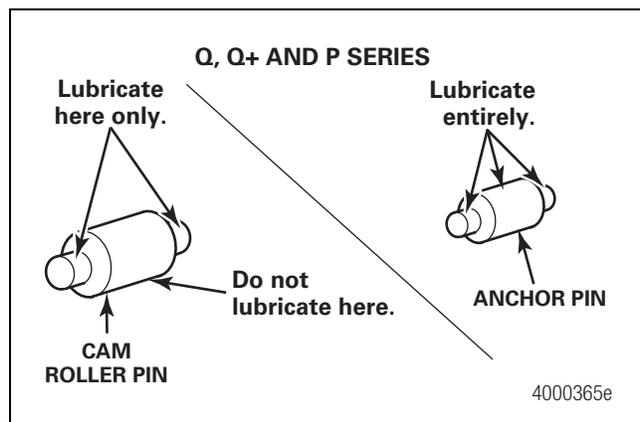
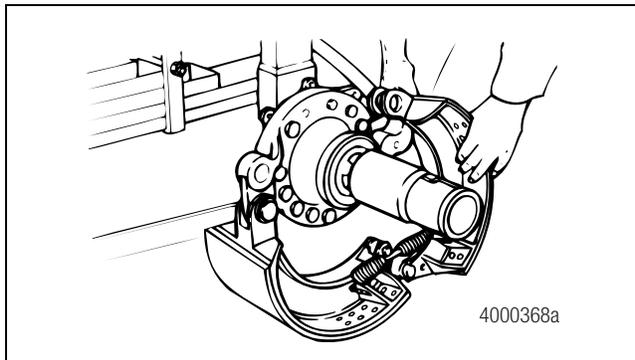

Figure 5.23
Figure 5.30
1. Lubricate the shoe rollers and anchor pins as shown in Figure 5.23. Use only Meritor-approved grease. Refer to Section 7 for approved grease specifications.
- **For the 16.5X7 P Series brake shoe:** After bushing installation, if necessary, ream the inside diameter (ID) of the bushing to 1.250-1.257-inch (31.75-31.93 mm) diameter (maximum).
- **For the 16.5X6 Cast+ or 16.5X8.62 Cast+ brake shoes:** After bushing installation, if necessary, ream the inside diameter (ID) of the bushing to 1.254-1.257-inch (31.85-31.93 mm) diameter (maximum).
8. Install a new shoe return spring onto the brake shoe. Figure 5.30. Place the upper brake shoe into position over the spider. Repeat Steps 5-6.